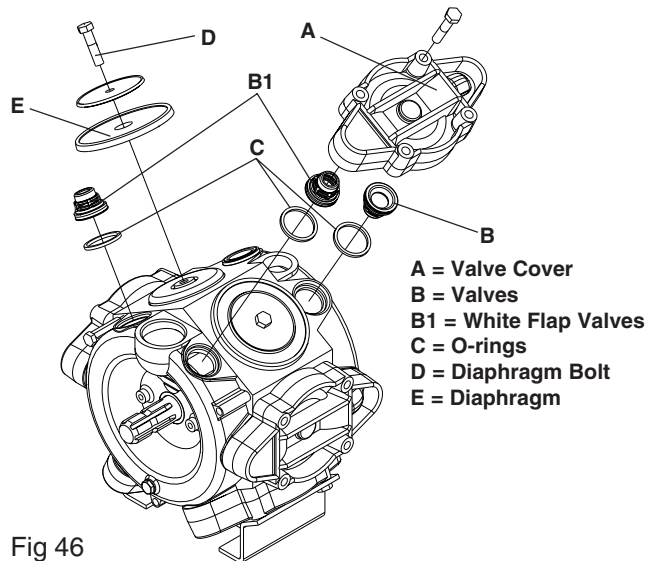

Fig 46
- 1 Remove the valve covers (A Fig 46). Before changing the valves (B Fig 46 & B1 Fig 46) note their orientation so they are replaced correctly.
- 2 The two white flap valves (B1 Fig 46) must be placed in the valve openings as shown. It is recommended to use new O-rings (C Fig 46) when changing or checking the valves.
- 1 With the valve covers removed as explained above, remove the diaphragm bolts (D Fig 46).
- 2 The diaphragms (E Fig 46) may now be changed.